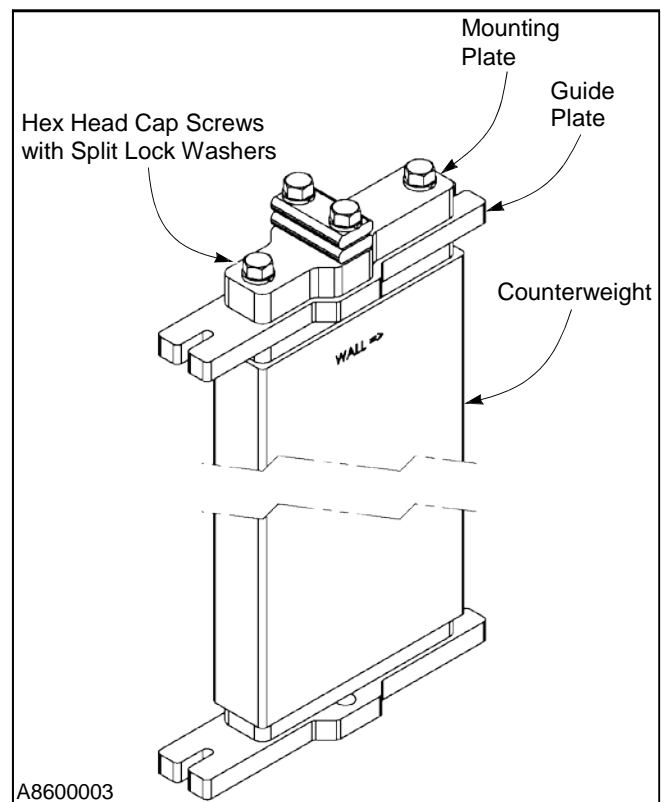

Figure 18
6. Secure mounting plate and guide plate to the counterweight with two $\frac{3}{8}$ -16 UNC x $1\frac{3}{4}$ hex head cap screws and $\frac{3}{8}$ in. split lock washers. (See Figure 18.)